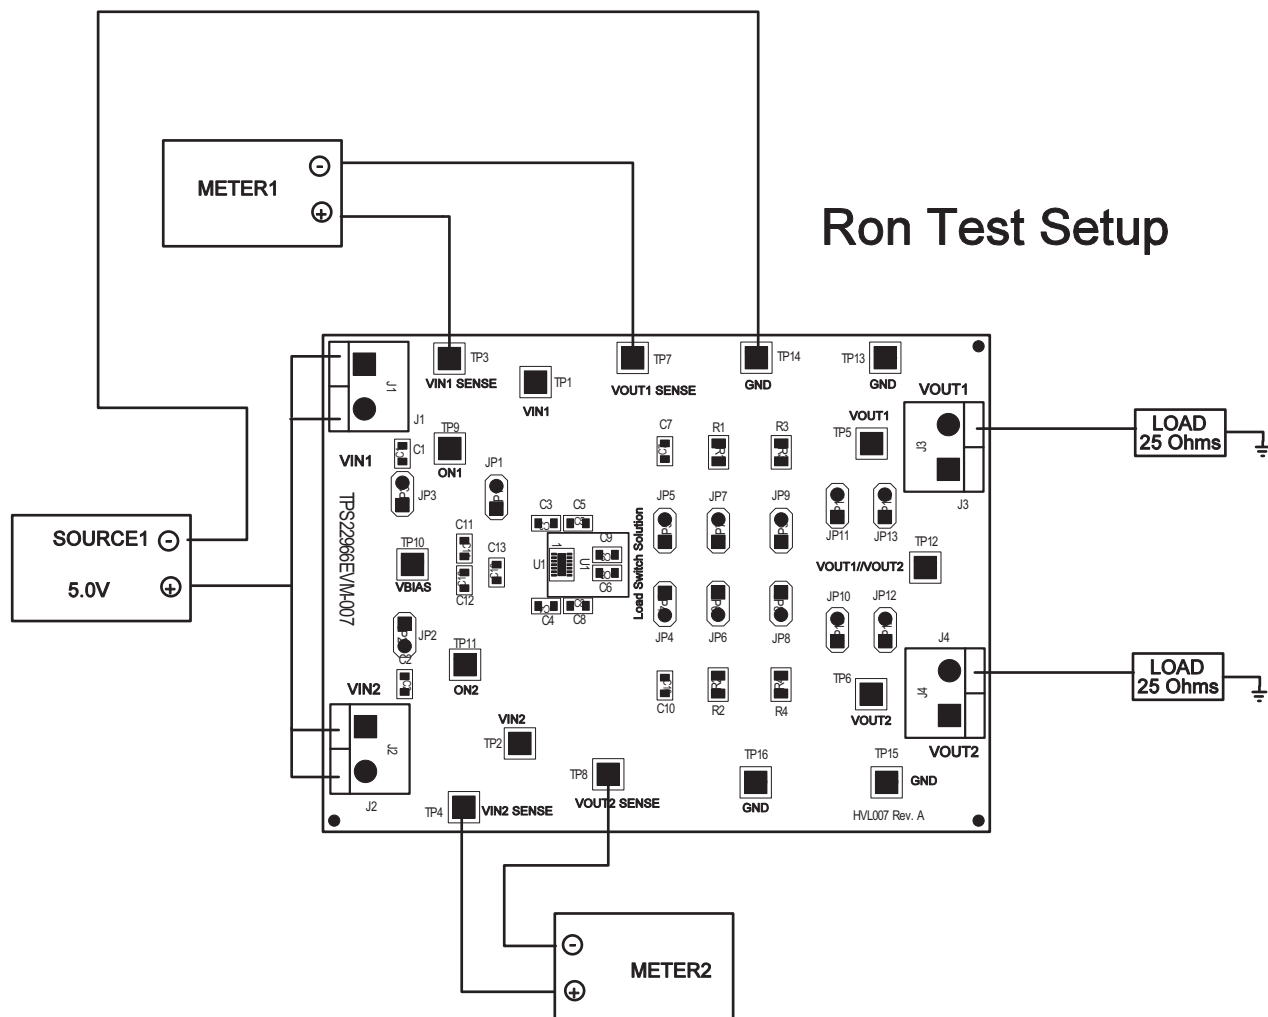

Figure 5. TPS22968EVM-007 Recommended Ron Test Set Up
Figure 5 shows a typical setup for the R_{ON} test of the EVM. VBIAS voltage must be present for the device to function, keep this voltage level constant between 2.5V-5.25V. Adding a shunt across JP1 will connect the VBIAS pin to VIN1. When testing with VIN1 below 2.5V JP1 shunt must be removed and VBIAS tied to another voltage source.
1. Setup the EVM per Figure 5.